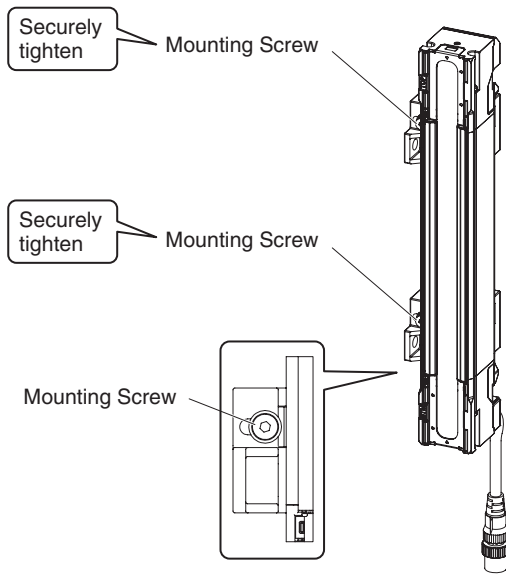

Fig. 3
3. Securely tighten the Mounting Screws to fix the Side-Mount Bracket to the yellow area of the sensor housing. The recommended torque to tighten the Mounting Screws is 3.0 N•m. Then loosen the Alignment Screws (Fig. 3)